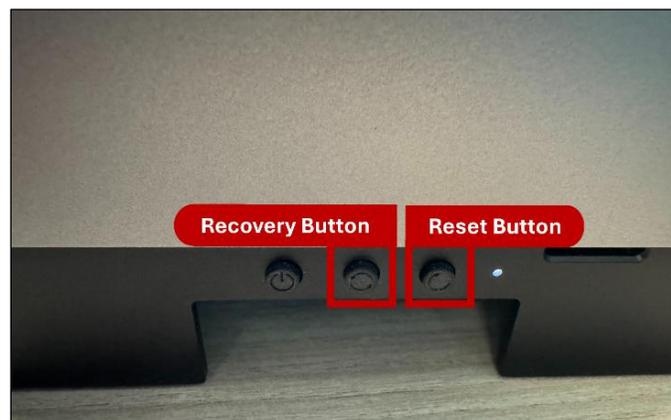

Figure 6.5. Recovery and Reset Button
3. Place the AGX Orin into recovery mode by pressing and holding the recovery button as shown in Figure 6.5. While holding the recovery button, press the reset button and release it. Wait for about three seconds or more, then release the recovery button.
11. Complete **STEP 04 – SUMMARY FINALIZATION** to finish the setup. Reset the Jetson AGX Orin system by pressing the reset button as shown in Figure 6.5. Then proceed to the next section to configure the Jetson AGX Orin itself.